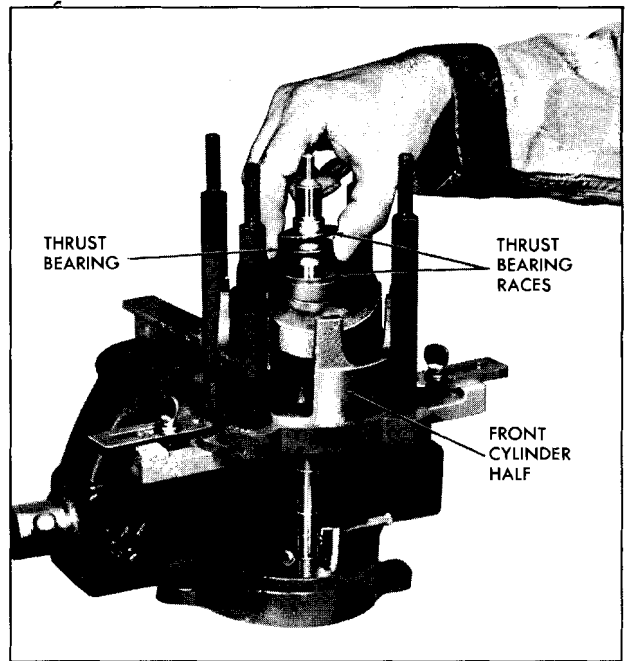

Fig. 1A-84 Mainshaft Thrust Bearing Installed
9. Remove rear combination of thrust races and thrust bearing (Fig. 1A-83). Discard all three pieces.